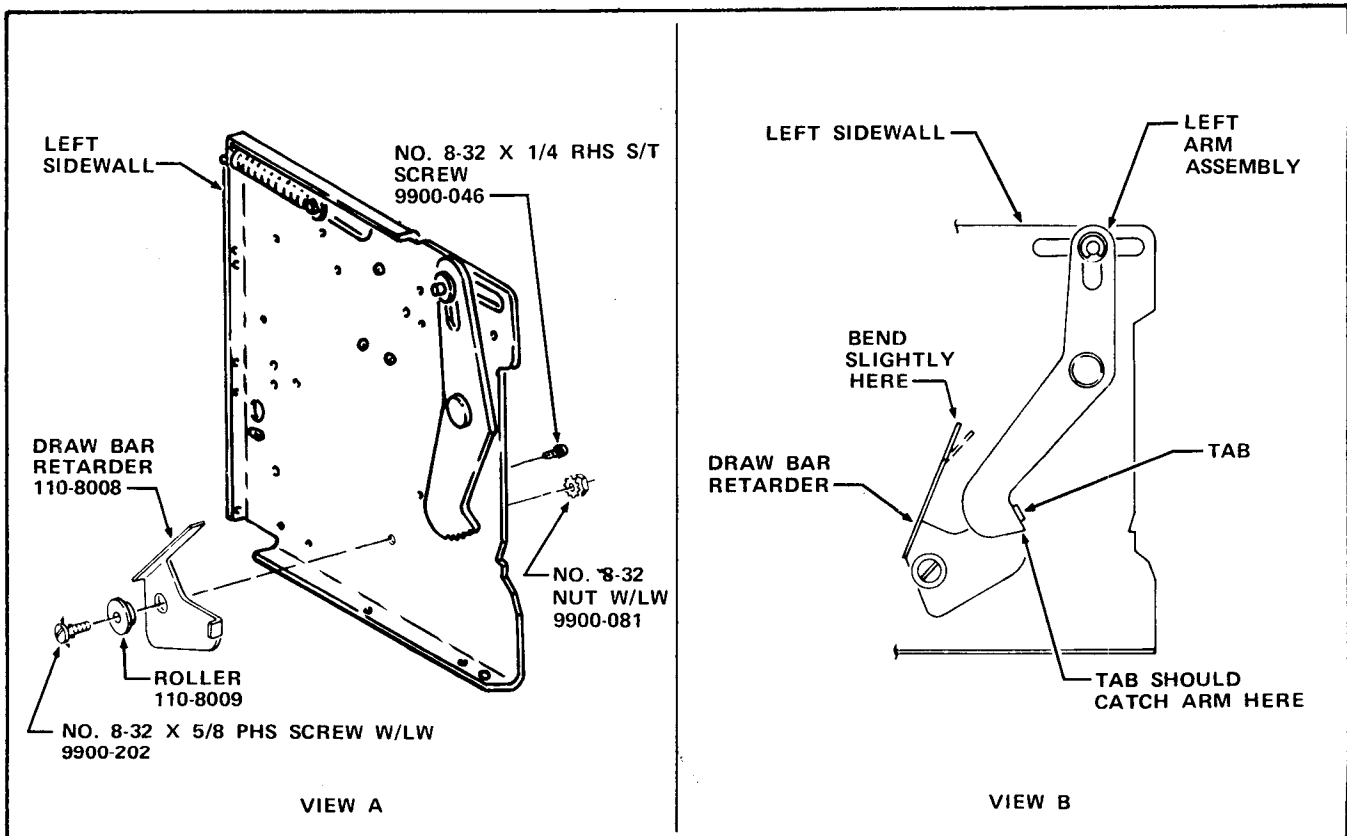

FIGURE 4-5
36. Install the Draw Bar Retarder, Part Number 110-8008, and Roller, Part Number 110-8009, on the Left Sidewall using a No.8-32 x 5/8 PHS Screw with Lockwasher, Part Number 9900-202 and a No.8-32 Nut with Lockwasher, Part Number 9900-081, all included in the Kit. Lubricate the Roller with Lubriplate. See View A of Figure 4-5.
37. Install a No.8-32 x 1/4 RHS Self Tapping Screw, Part Number 9900-046, included in the Kit, from the inside of the Left Sidewall so the Draw Bar Retarder Arm rests on the threads of the Screw. See View A of Figure 4-5.
When a Pull Knob is pulled too fast, the Draw Bar Retarder Tab will lock the Left Arm Assembly preventing a "free" vend. To complete the vend cycle when this happens, pull the Pull Knob all the way out, which will release the Left Arm Assembly and allow the Pull Knob to return to the at rest position. If the Draw Bar Retarder does not satisfactorily lock the Left Arm Assembly when a Pull Knob is pulled fast, bend the Draw Bar Retarder Arm down slightly until the Draw Bar Retarder works properly. See View B of Figure 4-5.